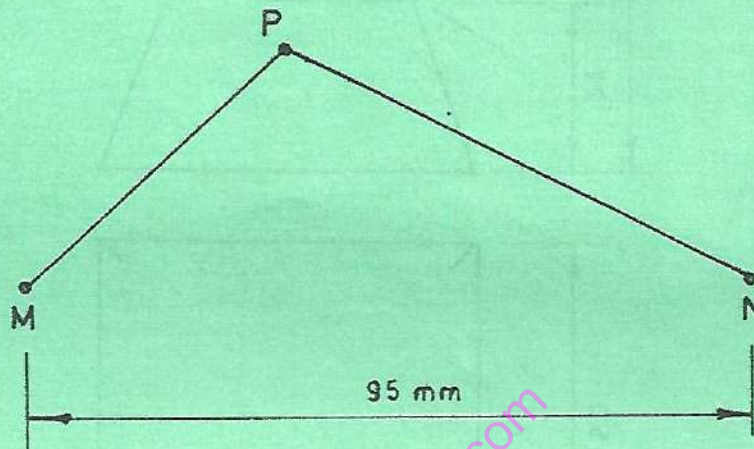

Fig. 4
- (b) Figure 4, shows a point P which moves so that the sum of the distances from P to two fixed points M and N, 95 mm apart is constant and equal to 120 mm.